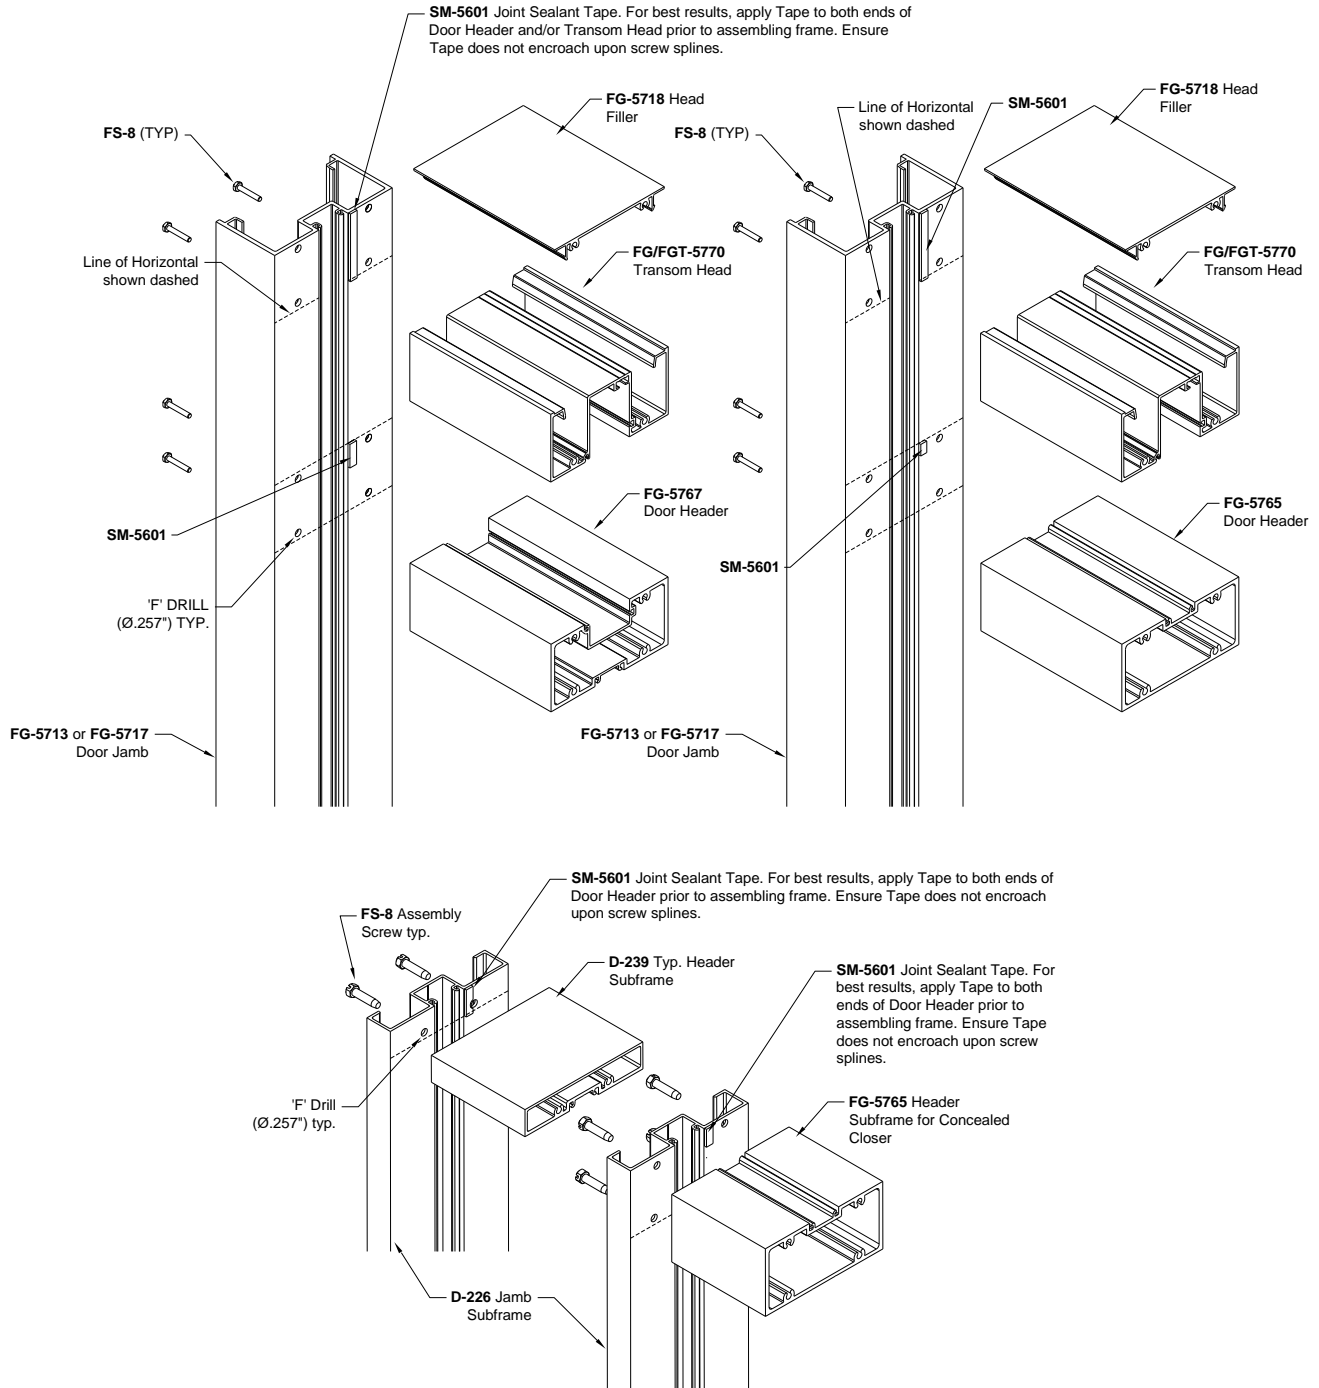

Figure 11: Rugged StormMax® Entrance Frame & Subframe Header Assembly
- 4.1 Reference *Figure 11* to assemble **FG-5713** or **FG-5717** Door Jamb to Door Head and Transom Head (if applicable). Apply **SM-5601** 1/8" x 1/2" Joint Sealant Tape to joint intersections at Door Header or Transom Bar and Transom Head Horizontal and assemble with **FS-8** fasteners. When using **FG-5717**, drill access holes for assembly screws per
Reference Section 4.0, Steps 4.1 - 4.3, following the same procedure and attaching Header Subframe to Jamb Subframes with **FS-8**. Substitute **D-226** Jamb Subframe for Door Jambs described therein. Reference *Figure 11*.